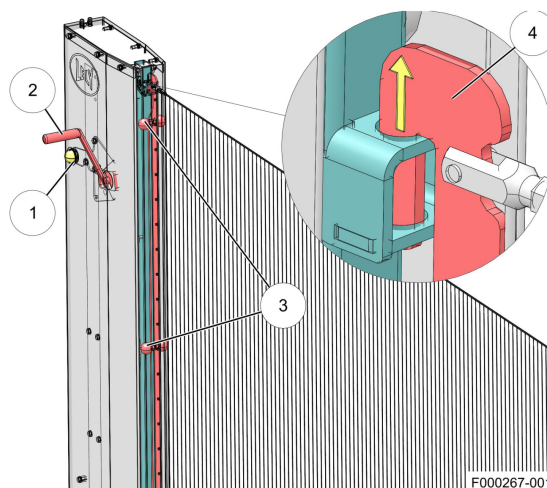

Figure 52. Open the safety net
1. Use the handles (3) (see figure 52 on page 5-30) to lift and hook the net connector (4) to the tensioner pole.
2. Turn the winch (2) to put tension on the net. Turn until the light (1) is off and stop turning. You can now put the feed kitchen in operation.